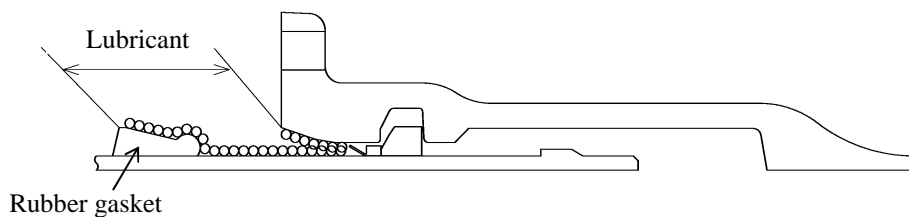

Figure-15 Lubrication to rubber gasket, spigot, and socket
- (1) Apply lubricant to the outer surface of the rubber gasket, the spigot, and the socket. Figure-15 shows the area of lubrication.